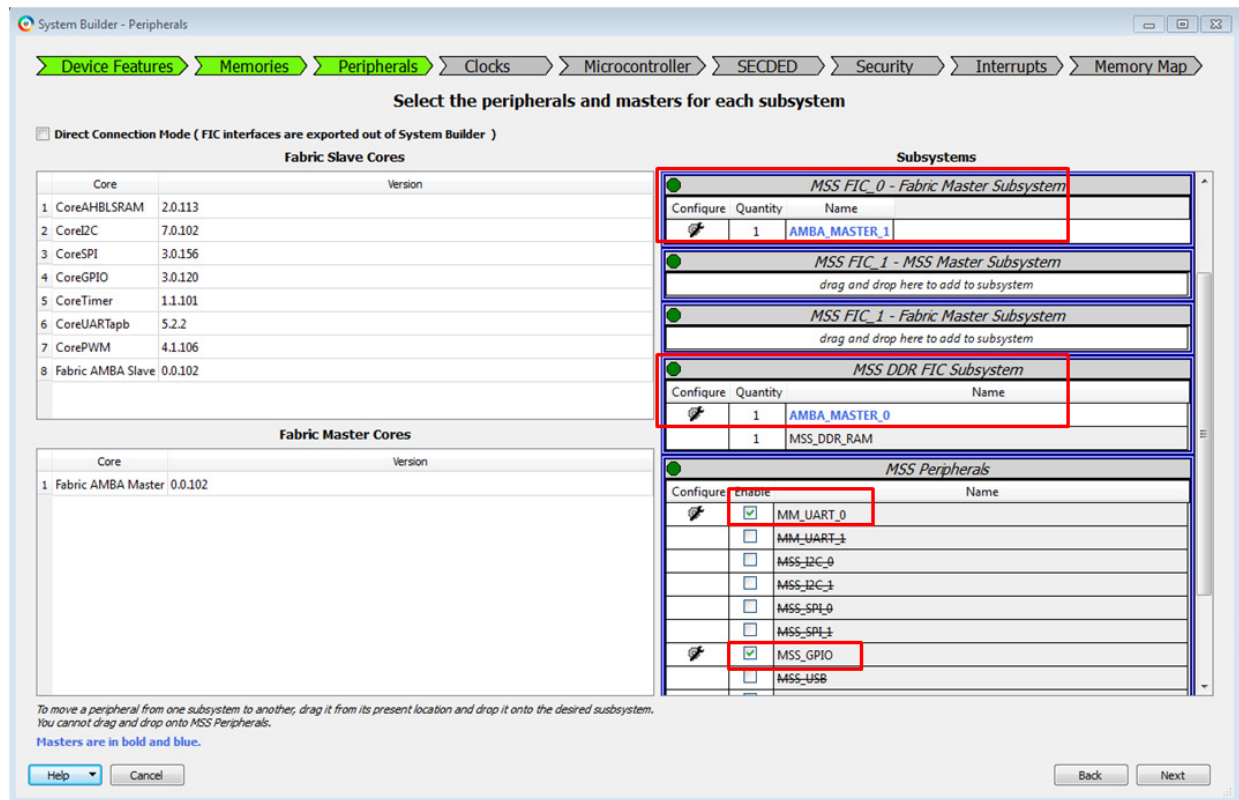

Figure 10 • Selecting MMUART_0 and MSS GPIO in Peripherals Tab
- In the Peripherals tab, drag **Fabric AMBA Master** to **MSS DDR FIC Subsystem**, as shown in Figure 10. **AMBA_MASTER_0** is added to the subsystem. Configure the Interface Type as **AXI**. Figure 10 shows the Peripherals tab.